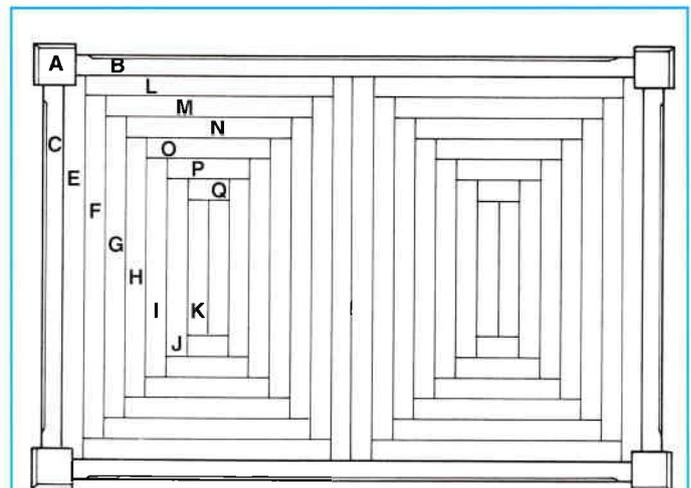

FIGURE 8
**7** Set up the Workcentre in the crosscut mode to cut the parquetry blocks. It is advisable to check the accuracy of your length gauge at this stage. Because of slight variations in the nominal sizes of dressed timber, it is necessary to measure and test fit each series of four blocks. Figure 8 shows the pattern. Cut four components (E) and notch two of them to fit around the table legs, using a small handsaw. The other two fit side-by-side across the middle of the table. Measure and then cut and fit four components (L) to form two rectangles hard up against the side frames of the table. Measure and cut four components (F) in the same way. It is best to cut one and test fit, then if satisfactory cut the other three without moving the stop of the length gauge. Next measure and cut four components (M) and continue in this way, making rectangles of diminishing size in each half of the table top until the two central components (K) are reached.